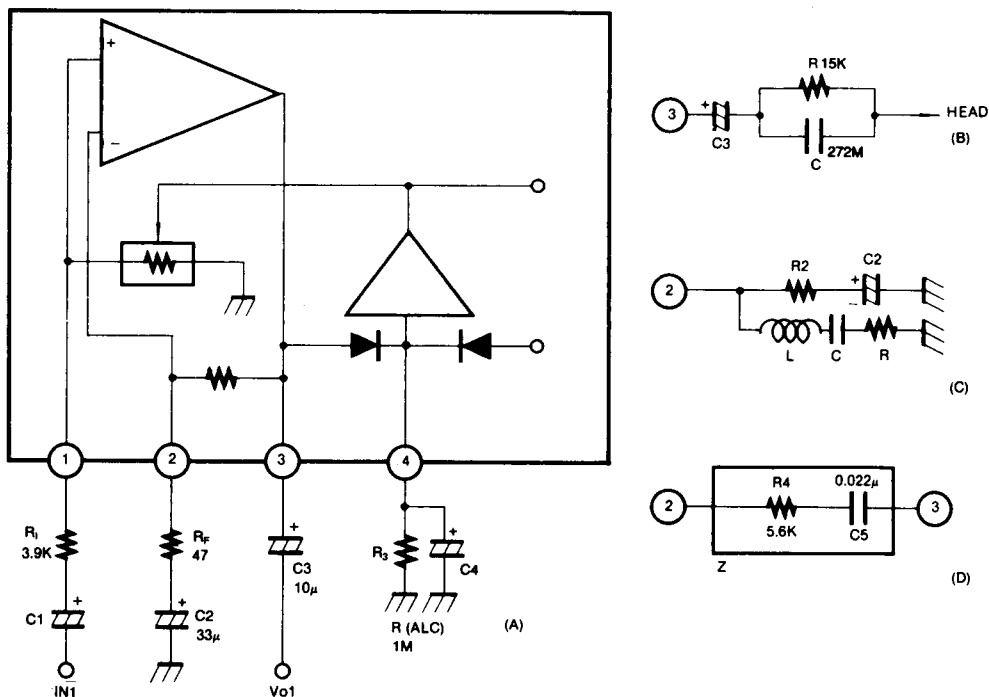

Fig. 3
2. Recording Amplifier (Figure 3 (A))
The recording amplifier requires a compensation circuit to correct loss at high frequencies. The compensation circuit may be either CR or LC resonance. The frequency response of the resonance circuit is fixed at 1~4KHz. An example using a CR is shown in Figure 3 (B), and one using LC resonance is shown in Figure 3 (C).
As the Figure 3, because the R_F range is $47 \sim 100$ ohm normally at the set application, the matching between R_3 and C_4 occurs.